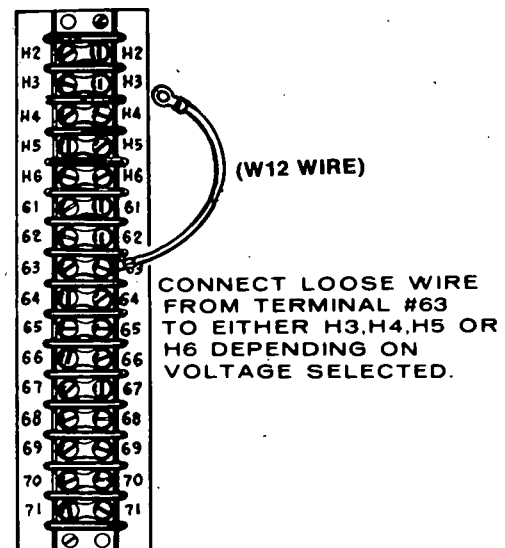

FIGURE 17. REFERENCE VOLTAGE CONNECTION (TB21)
3. Open hinged control panel doors. Connect lead from terminal 63 to correct terminal for voltage desired. These terminals are labeled H2, H3, H4, H5 and H6. See Figure 17.